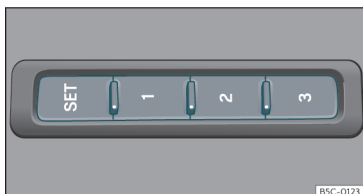

Fig. 104 On the outer side of the driver's seat: memory buttons.
» **Fig. 104.**
- Press and hold the **SET** button»» **Fig. 104**.